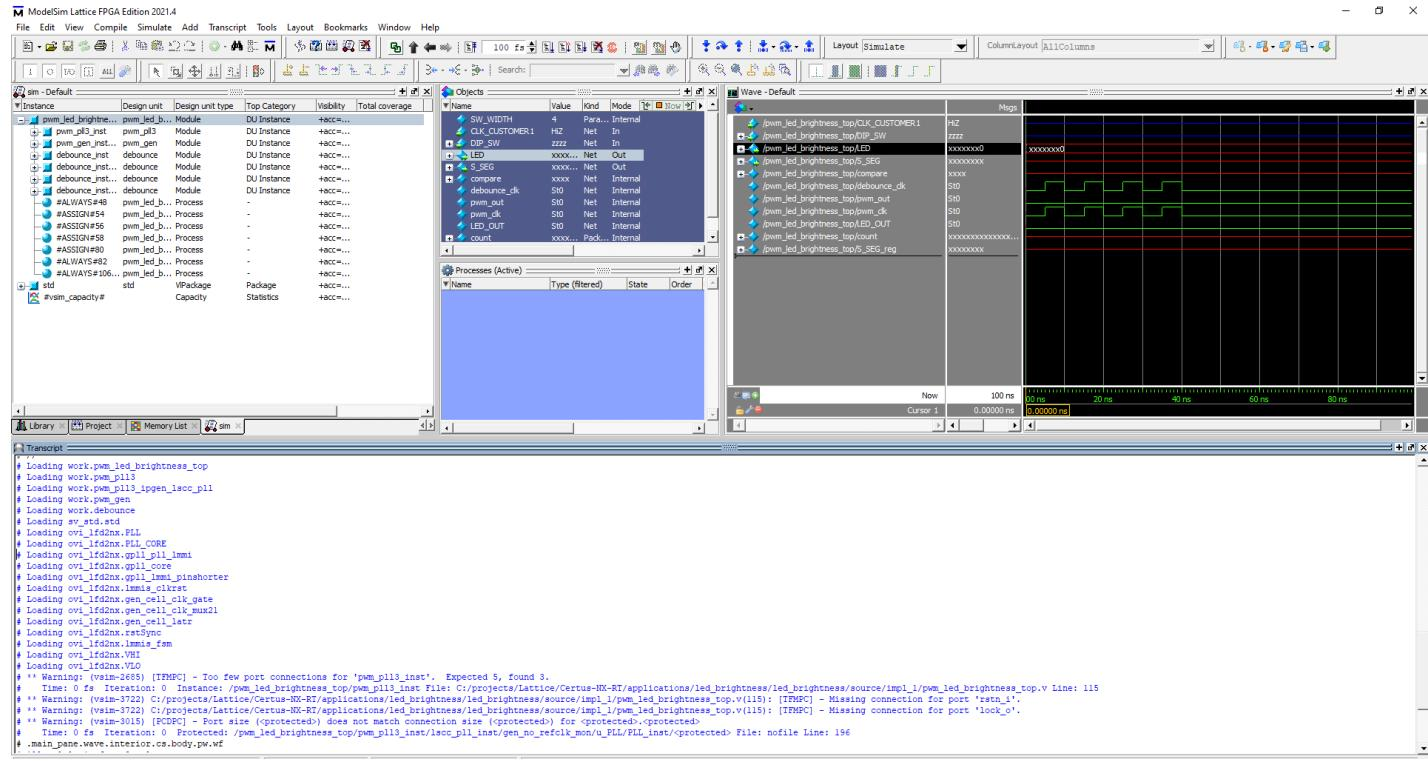

Figure 17: The ModelSim Simulation Wave View
18. When finished, **ModelSim** will open and run the simulation, see **Figure 17**.